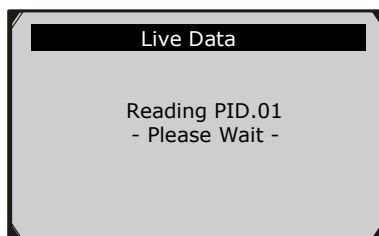

Figure 5.10
- 2) Wait a few seconds while the scan tool validates the PID MAP. (Figure 5.10)